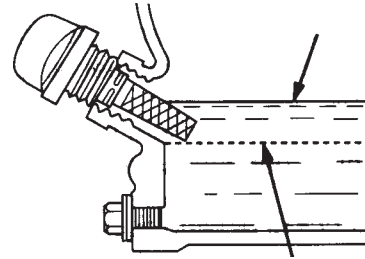

Figure 6. Engine Oil Dipstick (Oil Level)
4. If the oil level is low (Figure 6), fill to the edge of the oil filler hole with the recommended oil type (Table 4). Maximum oil capacity is 0.84 quarts (0.80 liters).